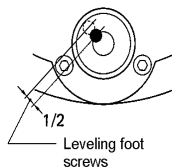

Fig.7.2
- 3) Compensate for one-half of the shift by adjusting the leveling foot screws ⑥. (Fig.7.2)